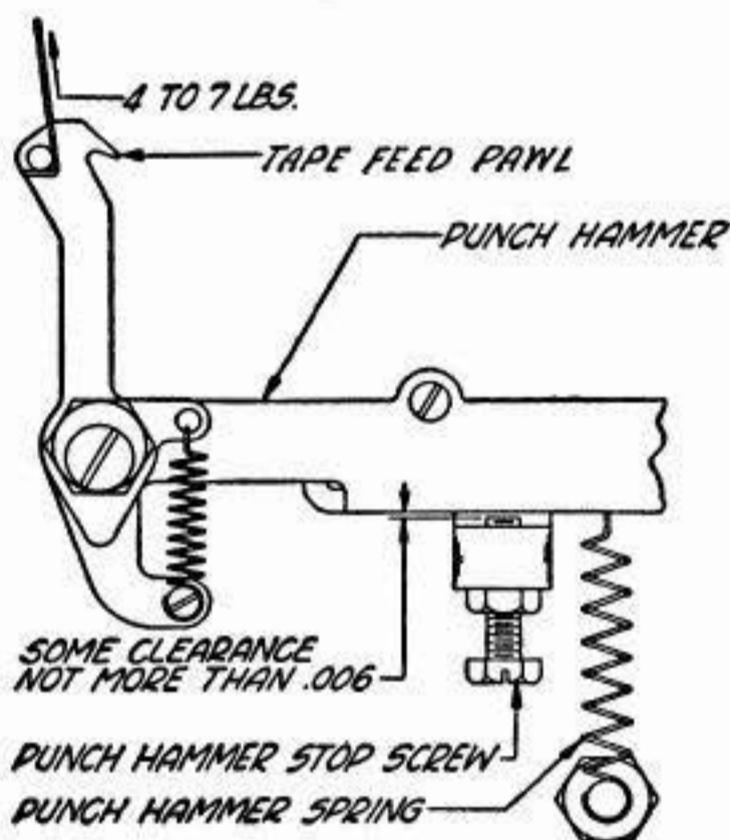

Fig. 36
(1) To adjust, position the punch-hammer stop screw. In order to facilitate the tightening of the stop screw locknut, put the punch-control lever in the OFF (to the right) position and remove the punch-hammer operating-lever adjustable plunger. **Fig. 36**
(a) Hook a scale over the end of the slotted extension of the tape-tension lever and pull at right angles to the lever. It should require Min 5 oz, Max 5-1/2 oz, as indicated in Fig. 36, to start the lever moving away from the tape-feed roll.
2.87 Punch-Hammer Spring: With the operating camsleeve in the stop position, hook a scale on the stud on the feed pawl and pull upward (slightly to the left). It should require a pull of Min 4 lb, Max 7 lb, as indicated in Fig. 36, to start the punch hammer moving. **Fig. 36**